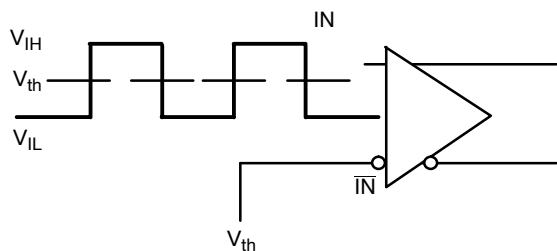

Figure 5. Differential Input Driven Single-Ended
**DIFFERENTIAL INPUT DRIVEN SINGLE-ENDED** (See Figures 5 and 6)